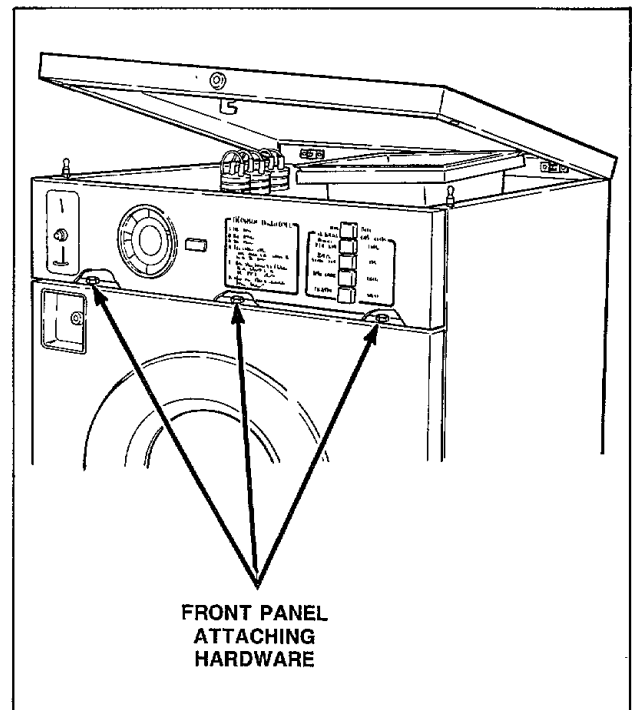

Figure 8
- i. While supporting front panel, remove the three hex head screws, lockwashers and washers holding the top flange of the front panel to the lower flange of the front channel, *Figure 8*, and remove front panel and gasket from washer.
- k. While supporting the front panel, remove the three hex head screws, lockwashers and washers holding the top flange of the front panel to the lower flange of the front channel, *Figure 8*, and remove front panel and gasket from washer.